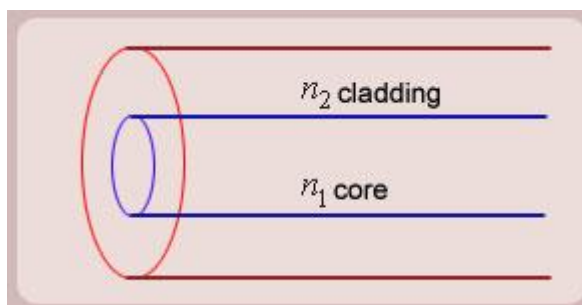

Figure1 Schematic of an optical fiber
5. The optical fiber consists of two concentric cylinders; the inside solid cylinder is called the **core** and the surrounding shell is called the **cladding**. (See Fig 1)